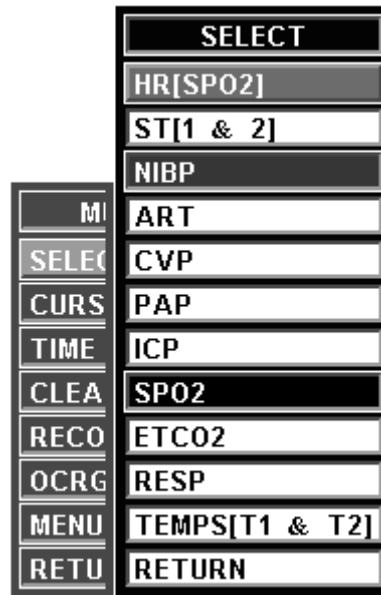

Figure 5-8. The Trend SELECT Menu
- a. **SELECT.** Selecting this menu option brings up the **SELECT** Menu (See **Figure 5-8**) from which either a single parameter (e.g., P1(ART) which includes systolic, diastolic, and mean arterial pressures) or up to four parameters may be selected. Once the selection is made and the **RETURN** option selected, the **SELECT** Menu is taken off and the Trend Graph for the selected parameter(s) is displayed. This menu also contains three (3) inactive selections: P3, P4 and **TEMPS** (T1 & T2), selecting any of these options will cause the monitor to display a message indicating that the parameter is not available on this monitor.